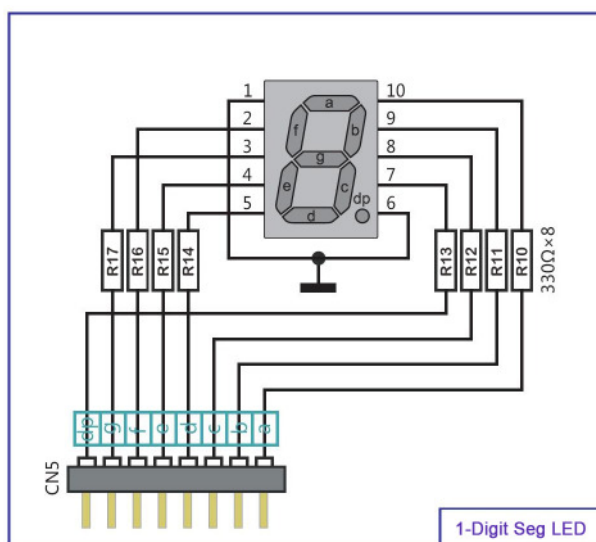

Figure 2-4: 1-Digit Segled Display Module
**PIC-EK** equips a common-cathode type 1-Digit Segled Display modules. Driving such a display is done using simplest mode: the common pin is connect to **GND** and all segments are connect to IOs directly. See the **Figure 2-4**,Eight data lines are connected to connector (**CN5**). This connector does not be connected to any IOs, and it makes your experiments more flexible. In order to enable Segled Display, you must connect the **CN5** to the IO lines of the microcontroller .See the comments in the source code provided in CD Rom for how to connect the hardware.